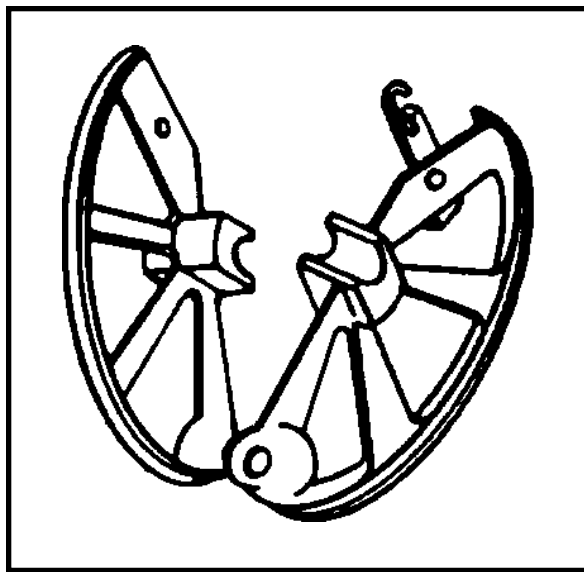

Figure 84 - Paper Guides
3. Remove the paper guides (see Figure 84).